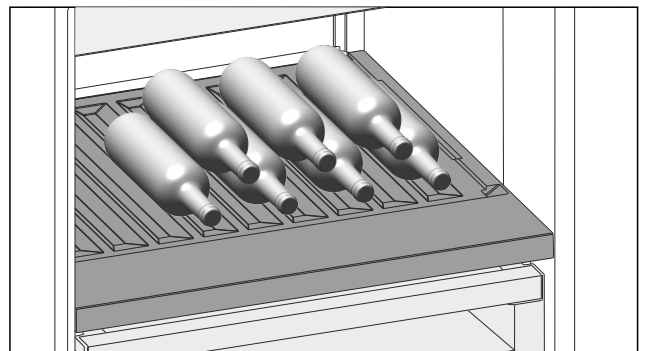

Fig. 184 Example illustration
- ▶ Place bottles in the back row with their bases against the back wall. (see Fig. 184)